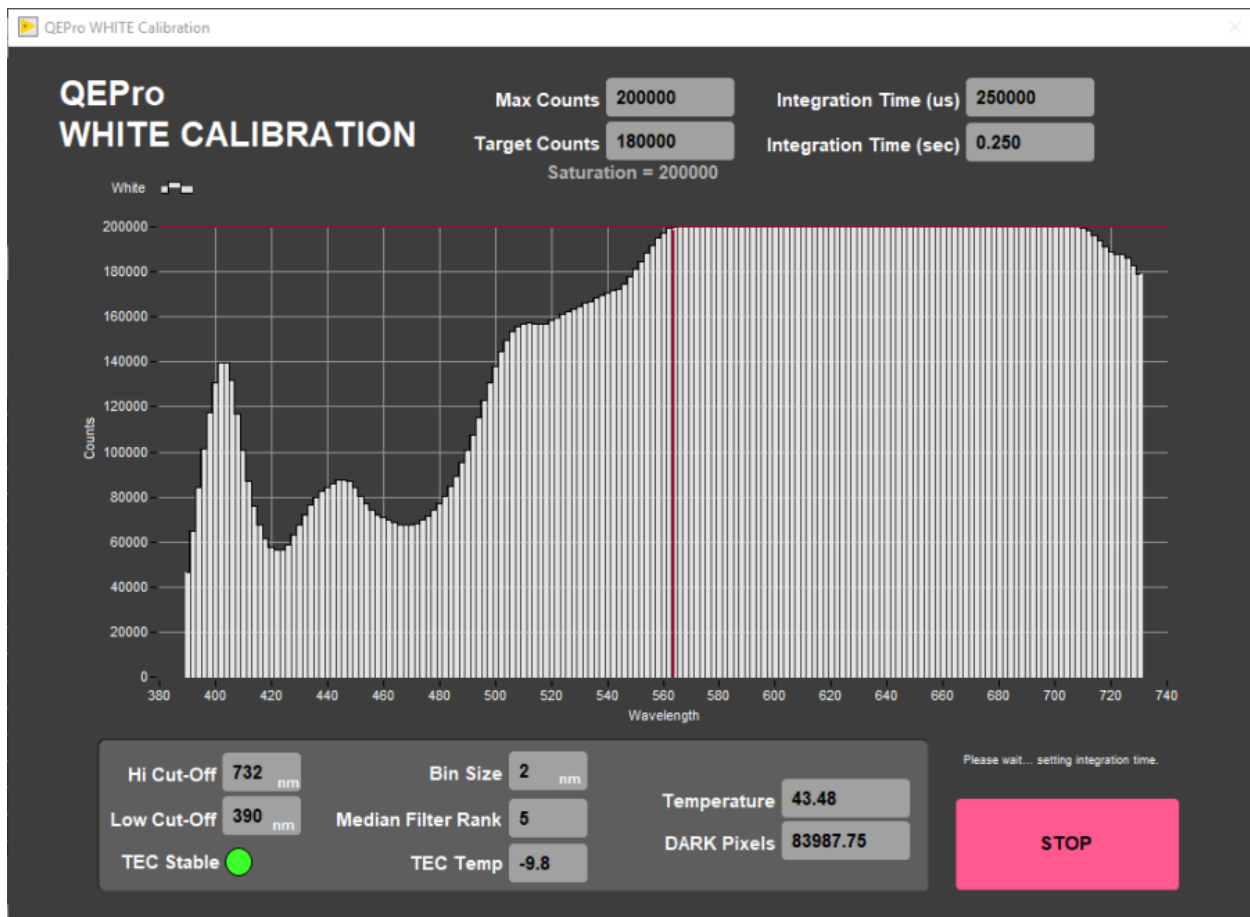

Figure 12. White Calibration, bad lighting or bleed in.
- Figure 12, demonstrates a calibration with an old light source. When the 500nm - 740nm end of the calibration spectrum is over the amount of counts the program will process, this might be for a number of reasons, but most likely the LED light is dim or off. The blue end of the spectrum is within the correct amount of counts and maintains the right curve with the spike around 400 wavelength and a dip into the 420-430 range. The first thing to check is the age of the LED light source, if it is older than 1 month it should be replaced.